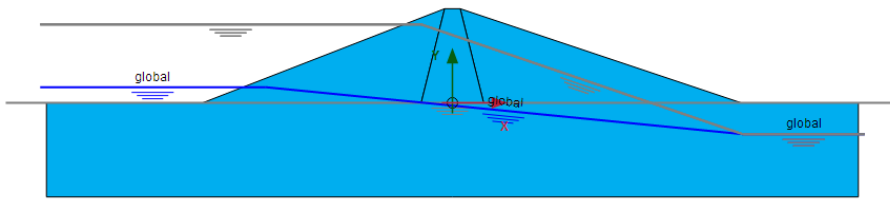

Figure 8.12 Model for the low level case in the *Flow conditions* mode
- In the *Water* subtree under the *Model conditions* in the *Model explorer* assign the new water level (*LowLevel\_Steady*) to *GlobalWaterLevel*. All the defined water levels are shown in Figure 8.12.